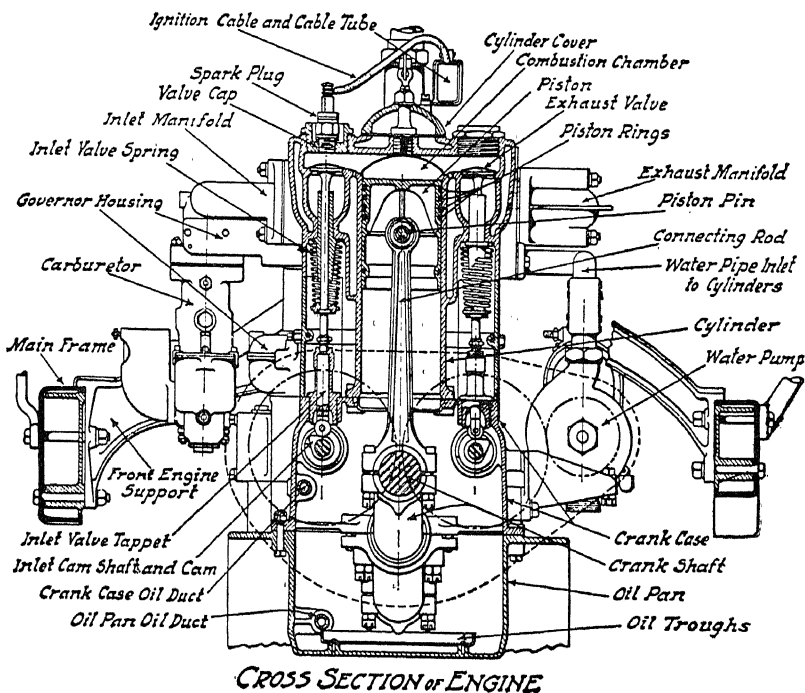

Fig. 2. Section through Typical T-Head Engine
**T-Head Engine.** This design is more costly as two camshafts are required with the attendant gears or chain and sprocket drive. It is used in some heavy duty trucks and tractors. Fig. 2 shows the cross section of a conventional T-head engine. All exhaust valves are on one side of the engine and all intake valves are on the other side. This arrangement allows room for the use of dual valves, which gives four valves per cylinder instead of two.